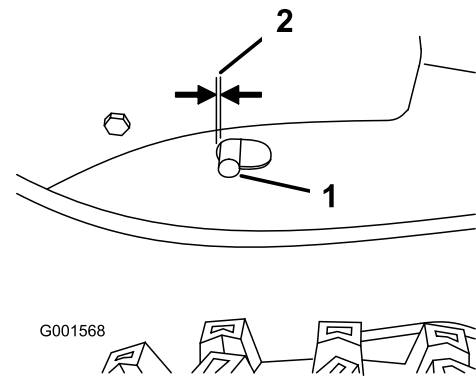

Figure 30
2. With the traction lever disengaged, check the pin in the elongated slot in the left side of the machine above the tire (Figure 30).
Note: There should be a gap of 6 mm (1/4 inch) from the front of the slot to the front edge of the pin (Figure 30).